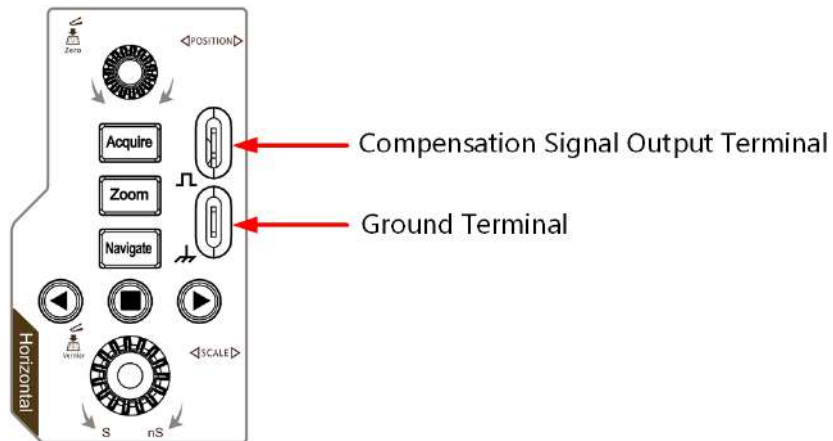

Figure 5.7 Use the Compensation Signal
2. Connect the ground alligator clip of the probe to the "Ground Terminal" as shown in *Figure 5.7*.
3. Use the probe to connect the input terminal of CH1 and the "Compensation Signal Output Terminal" of the probe, as shown in *Figure 5.7*.